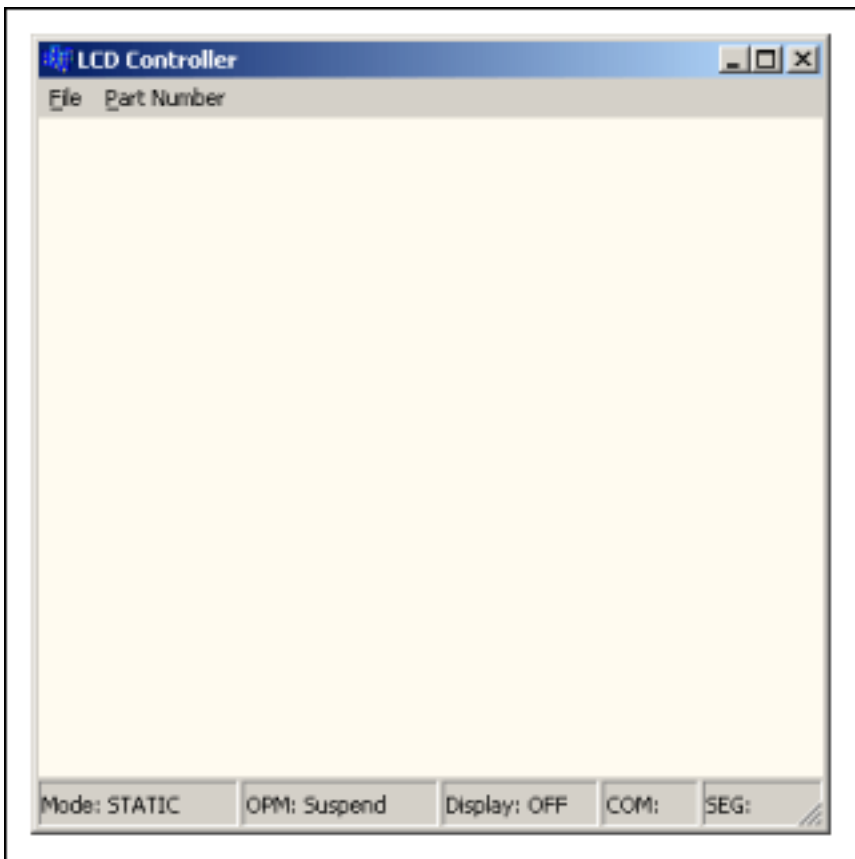

Figure 1. LCD simulator GUI.
- d. Under the Device menu, click on **LCD Simulator** and the LCD GUI will be displayed, as seen in **Figure 1**.
- k. Select the LCD peripheral and the LCD GUI will be displayed as in Figure 1.